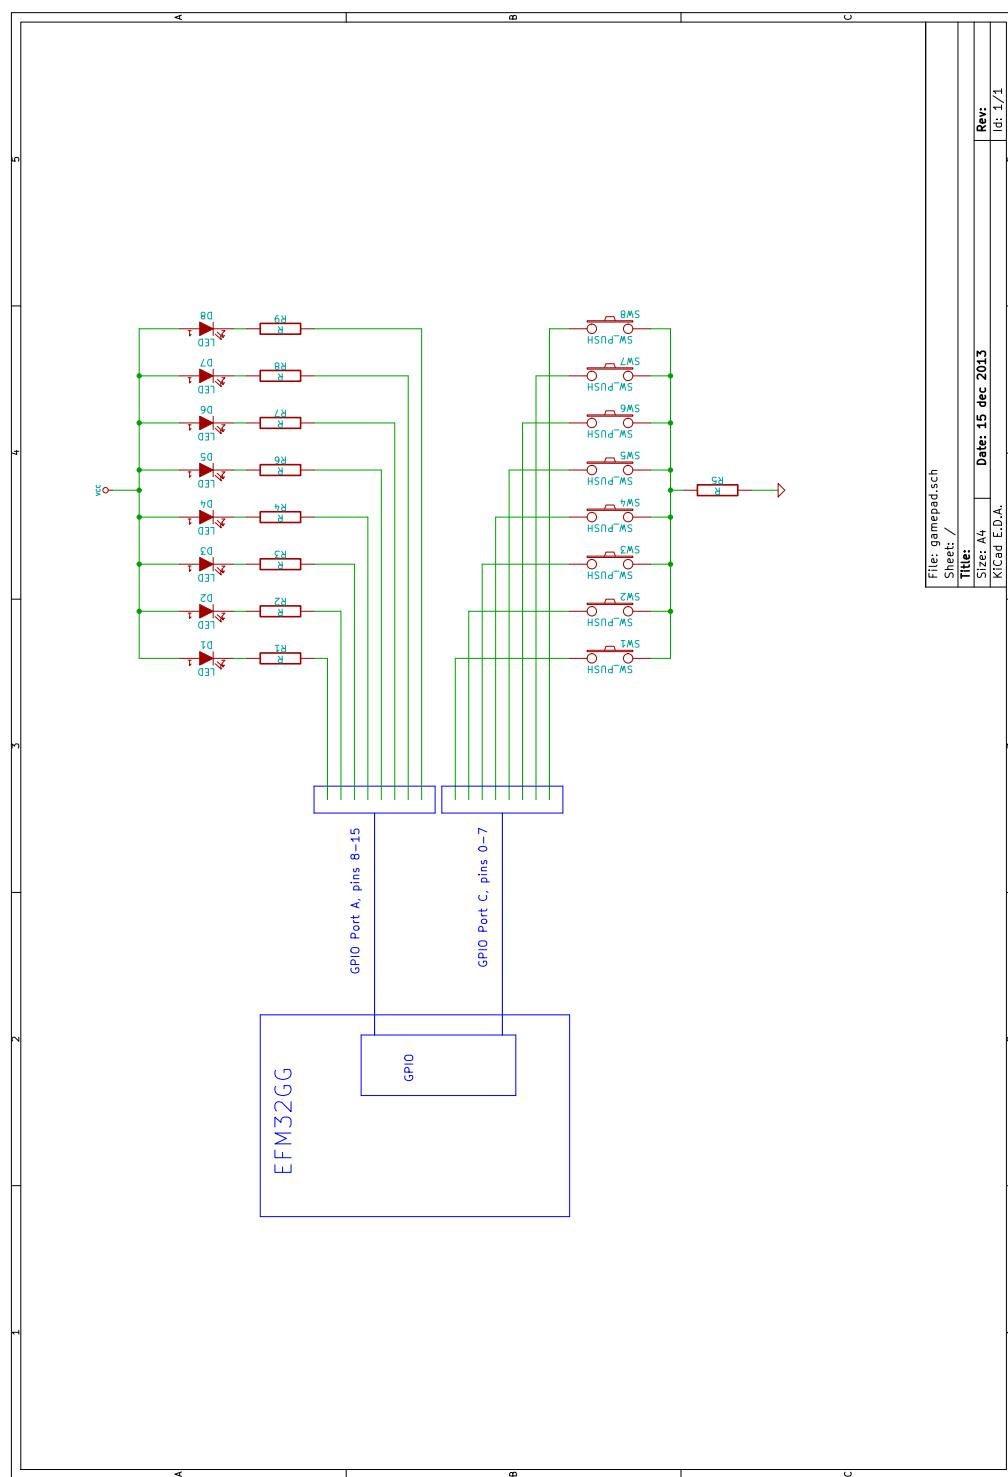

Figure 3.6.: Gamepad simplified schematics
The GPIO pins of the microcontroller is exposed on the connectors on the prototyping board. This gamepad must, therefore, be connected to the prototyping board, as was shown in figure 2.1. When connected like that, figure 3.6 shows the schematic in detail. Note that no external pull-up resistors2 are present for the buttons, the internal pull-ups of the EFM32GG must therefore be used in order to correctly read logical high when buttons are released.
- Pins 8-15 can now be set high or low by writing to bits 8-15 of GPIO\_PA\_DOUT. The LEDs are active-low, as can be seen in the gamepad schematics in figure 3.6.